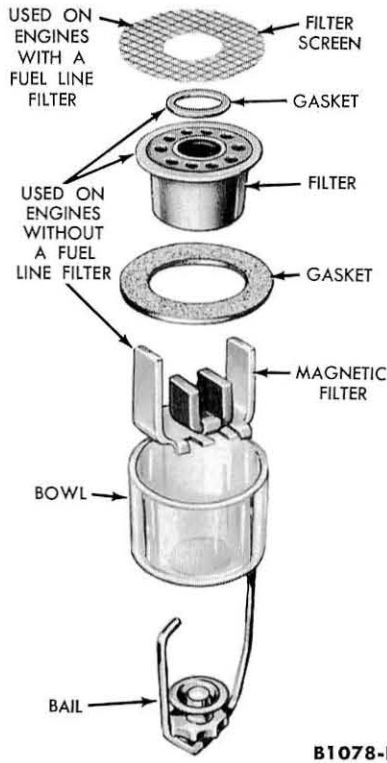

FIG. 5—Sediment Bowl
6. Clean Fuel Pump Sediment Bowl And Replace Bowl Filter—Mechanical Fuel Pump. Clean the bowl and magnetic filter (if used) with cleaning solvent and dry them with compressed air (Fig. 5). Replace the gasket if it is defective.